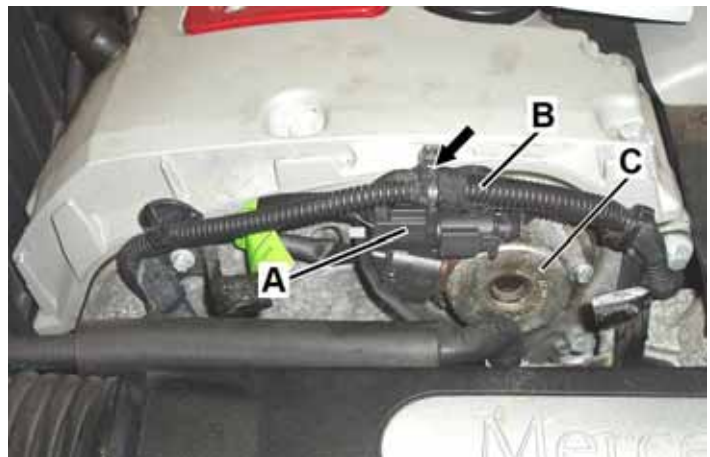

Figure 2
- Connect adapter harness between connector on camshaft solenoid (C, Figure 2) and engine harness.
- Secure adapter harness connector (A, Figure 2) to engine harness sheath (B) with cable tie (arrow).